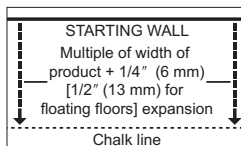

Figure 6
- In at least two places, at least 18" (46 cm) from the corner, measure out equal distance from the starting wall (Figure 6) and snap a chalk line. The measurement must be the sum of the width of the flooring plus an additional 3/8" (9.5 mm) to allow for 1/4" (6 mm) expansion space and the width of the tongue. Allow 1/2" (13 mm) expansion when installing floating floors. Continue to Step 3; Staple, Glue or Floating.